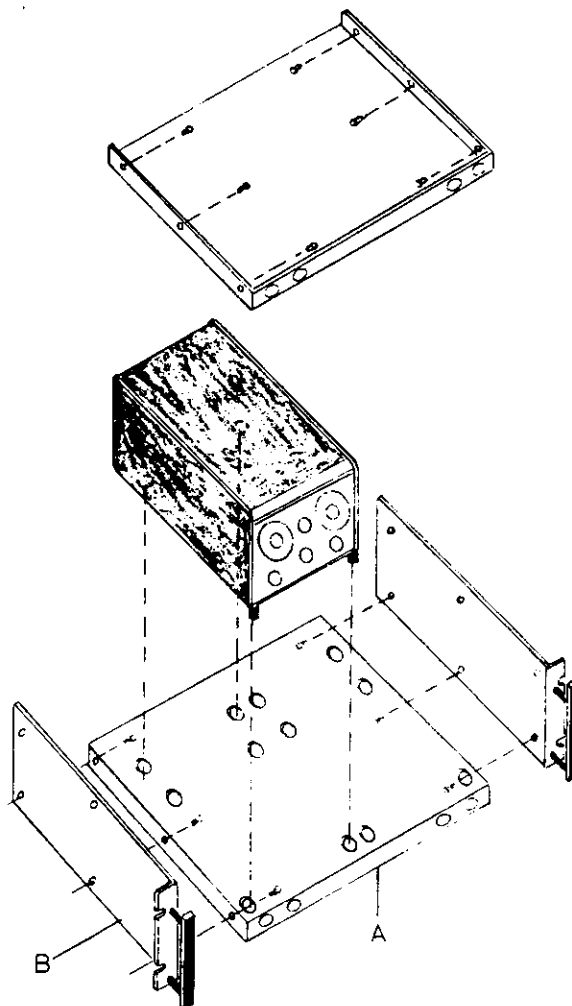

Figure 2-2. K-104 Rack Mounting
- d. Rack Mount Kit — K104. Mounts one or two instruments in a 7 inch space. See Figure 2-2.
### 2.1.5 K-104 Rack Mounting Kit (Refer to Figure 2-2)